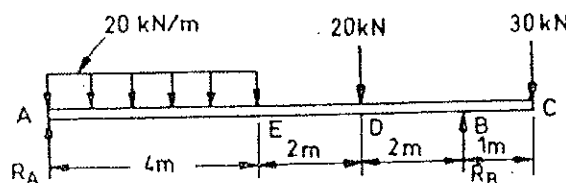

Fig. Q2
- (b) A beam, supported at A and B, is loaded as shown in Fig. Q2. Find the position and magnitude of maximum bending moment and position of point at which bending moment is zero. Draw the shear force and bending moment diagrams.